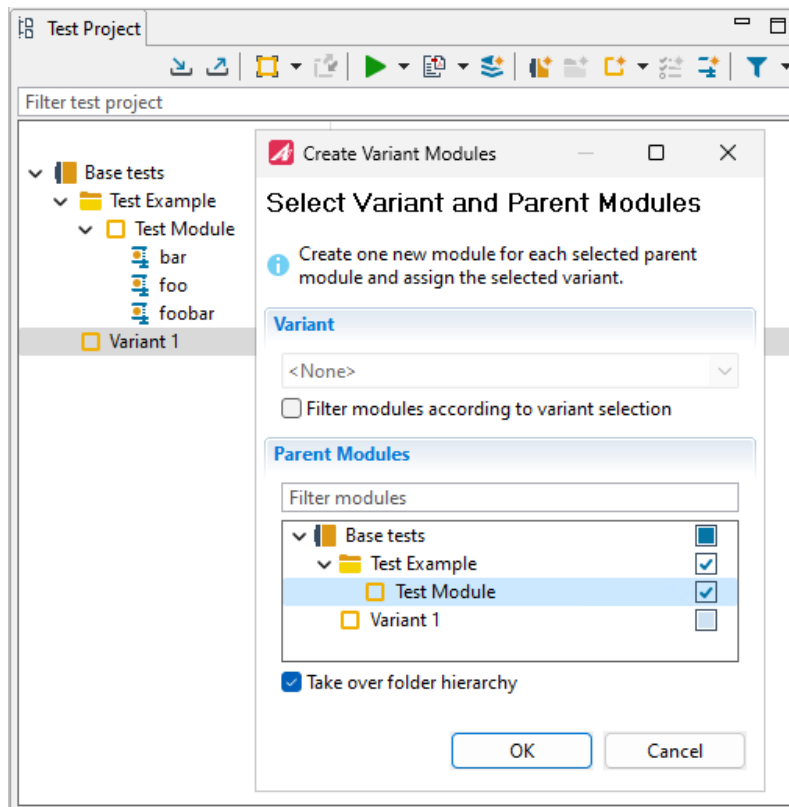

Figure 6.25: Selecting the parent module of the variant
- Choose the parent module and click on “OK” (see figure 6.25).